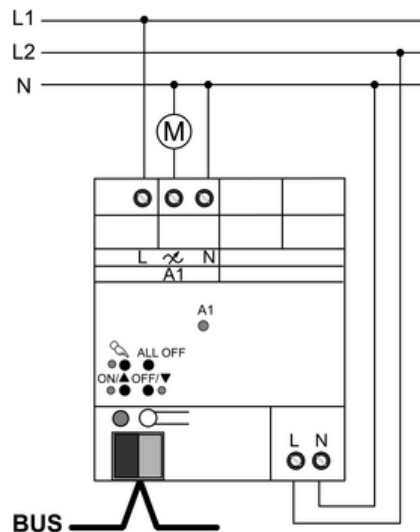

Figure 6: Dimmer actuator 1gang – connection for speed controller operation
- Connect device as shown in the connection example (figure 6).